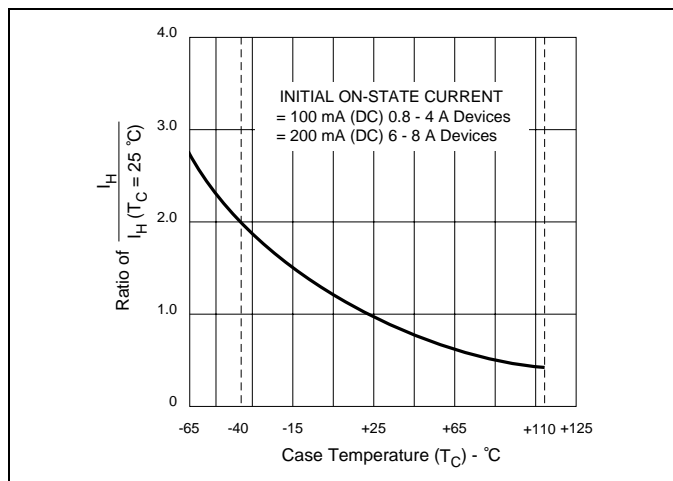

Figure E1.5 Normalized DC Holding Current versus Case Temperature
- See Figure E1.5 for  $I_H$  versus  $T_C$ .